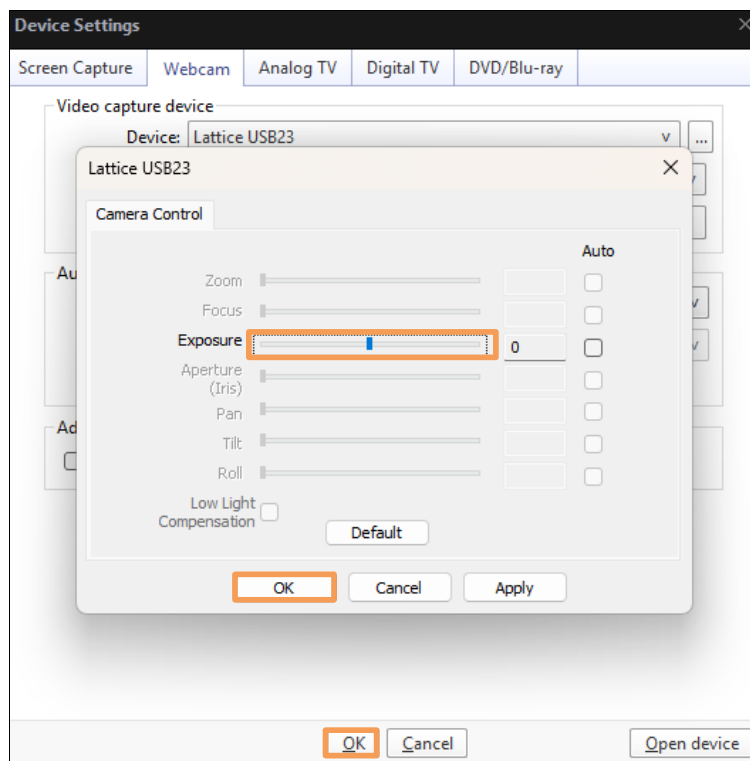

Figure 7.4. Camera Control Menu in PotPlayer 1
- (Optional) In the **Camera Control** menu, adjust exposure using the slider. Then, click **OK** to confirm (Figure 7.4).